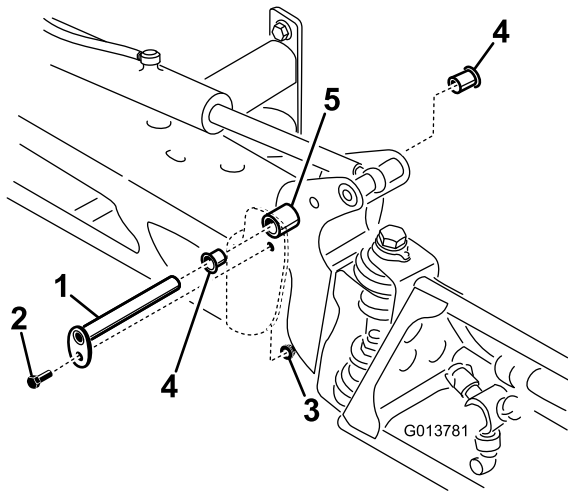

Figure 65
3. With the weight of the boom supported, remove the bolt and nut securing the pivot pin to the boom assembly (Figure 65). Remove the pivot pin.
5. Remove and inspect the nylon bushings from the front and back sides of the pivot bracket (Figure 65). Replace any damaged bushings.
7. Install the boom and pivot bracket assembly into the center frame, aligning the openings (Figure 65).